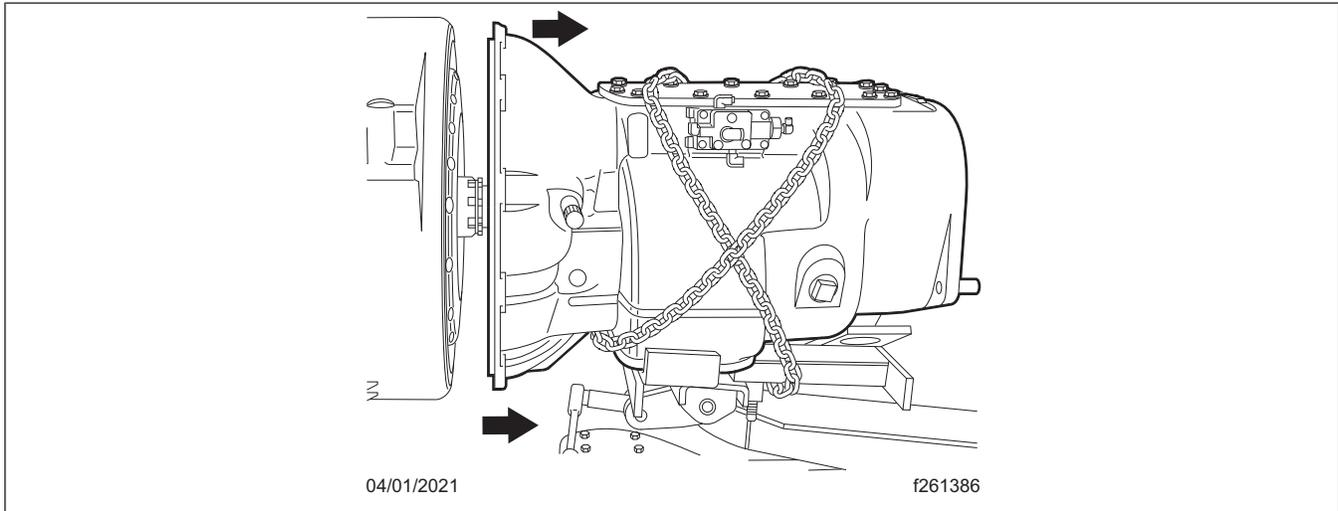

Fig. 11, Transmission Removal
20. Pull the transmission back, until the transmission input shaft is clear of the clutch and the engine flywheel housing. Lower the transmission. See **Fig. 11**.